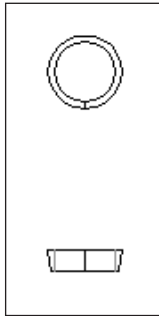

Figure 9-10: The valve piece has now been scaled down.
5. Save your drawing. It should look like Figure 9-10.